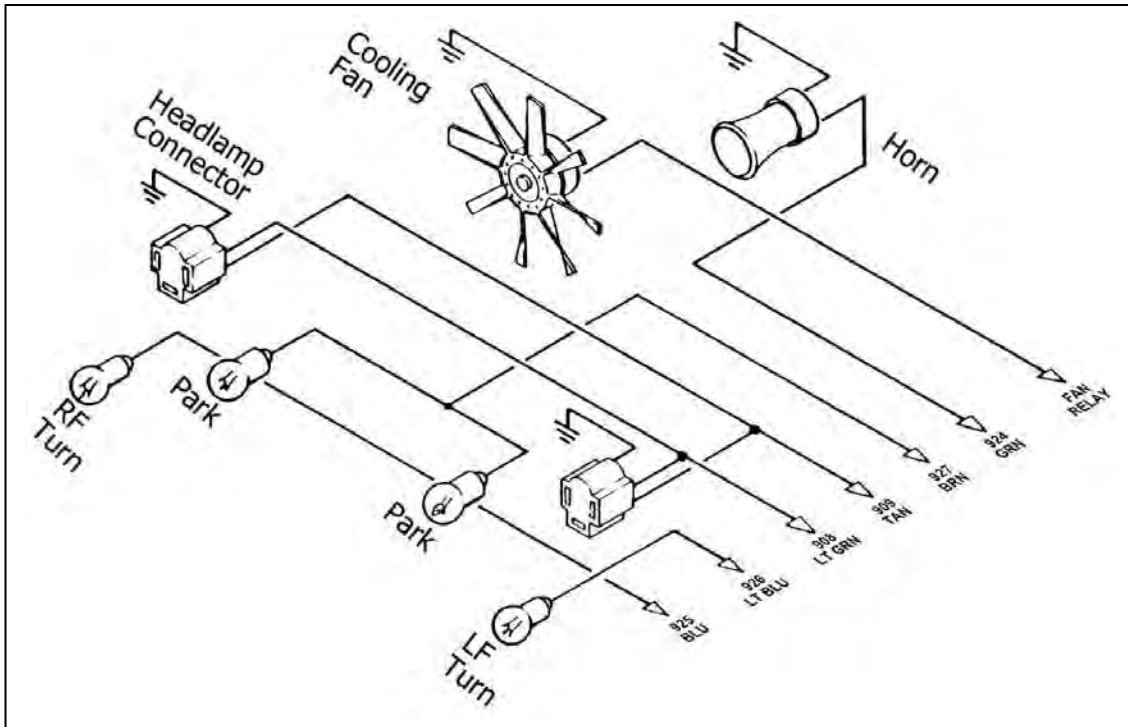

Figure 8.3 Headlight Section "A" Wiring
8.3 HEADLIGHT SECTION "A" WIRING. See Figure 8-3
- 8.3.2 Connect HEADLIGHT SECTION A wire #908 (lt.grn) to the green wire of BOTH headlamp connectors. If you have a quad headlamp setup you will need to connect the two high beam headlamps to this wire as shown in **Figure 8-3**. Connect wire #909 (tan) to the tan wires of both headlamp connectors. Connect the black wires of the headlamp connectors to chassis ground. You should have enough wire to accomplish this. You have been supplied with two small grommets should you need to pass these wires through a fender well. Don't forget to thread them onto the wires BEFORE you connect the wires.